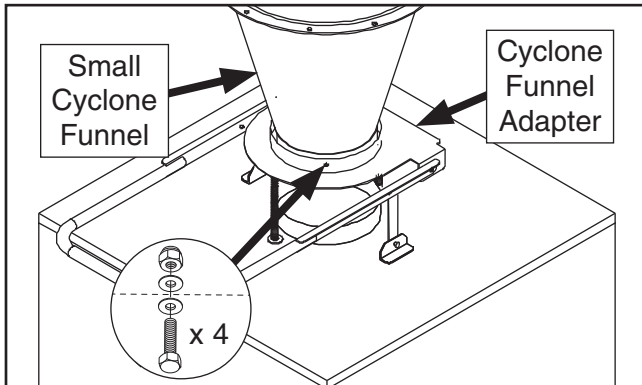

Figure 39. Small cyclone funnel attached to adapter.
53. Align mounting holes of small cyclone funnel and cyclone funnel adapter then attach with (4) $\frac{3}{8}$ "-16 x 1" hex bolts, (8) $\frac{3}{8}$ " thin flat washers, and (4) $\frac{3}{8}$ "-16 lock nuts (see **Figure 39**).